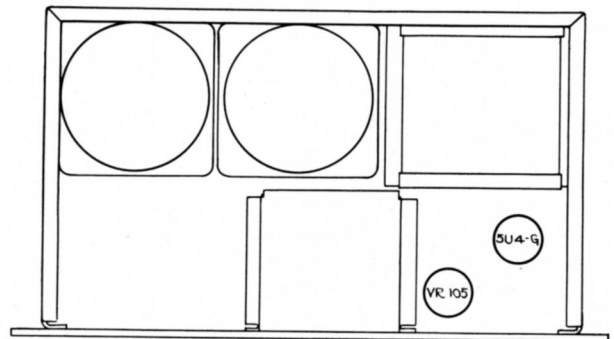

Figure 2-5—Rectifier Power Unit, Tube Locations (MX-244730)
(2) Insert the tubes in their proper sockets (see Figure 2-5). Make certain that the tubes are pressed down firmly. Tube locations are desig-